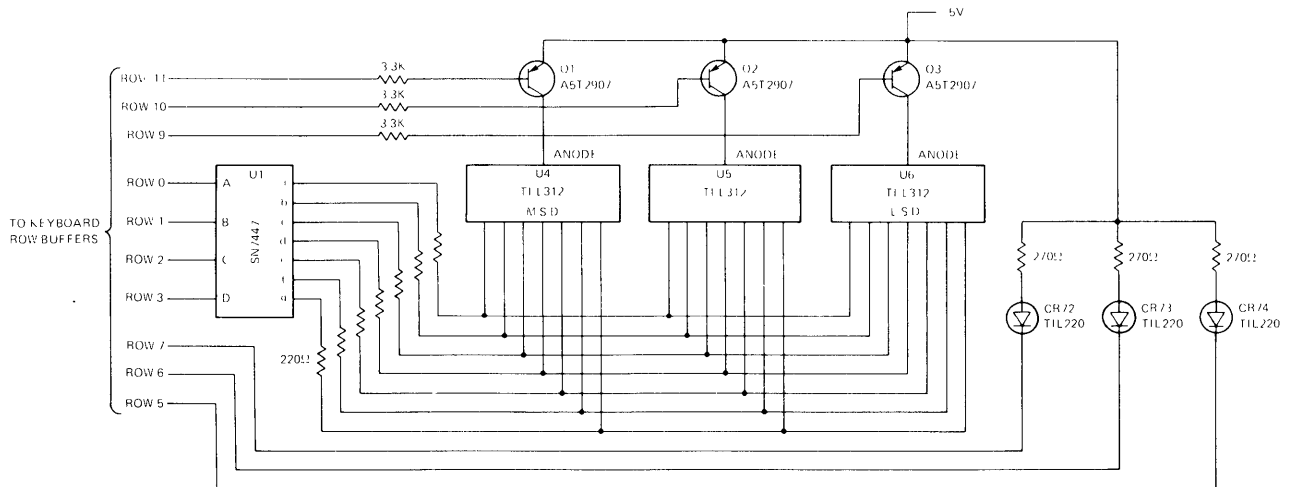

Figure 4-17 Terminal Displays, Simplified Diagram
4.4.3 TERMINAL STATUS DISPLAYS AND INDICATORS. the terminal status display (TSD) is controlled by rows R0-R3 and R9-R11. Outputs R9-R11 strobe the seven-segment LED displays by forward-biasing transistors Q1, Q2, and Q3. These three transistors supply the current to the common-anode segment LED diodes of the display. The display is driven by a BCD-to-seven-segment decoder/driver (U1, drawing 999710 (KSR) or drawing 999951 (R0), sheet 1). The four inputs (A-D) for the decoder/driver are R0-R3, respectively (See Figure 4-17). The other terminal indicators are controlled by R5-R7 and are activated by enabling their respective rows (low).